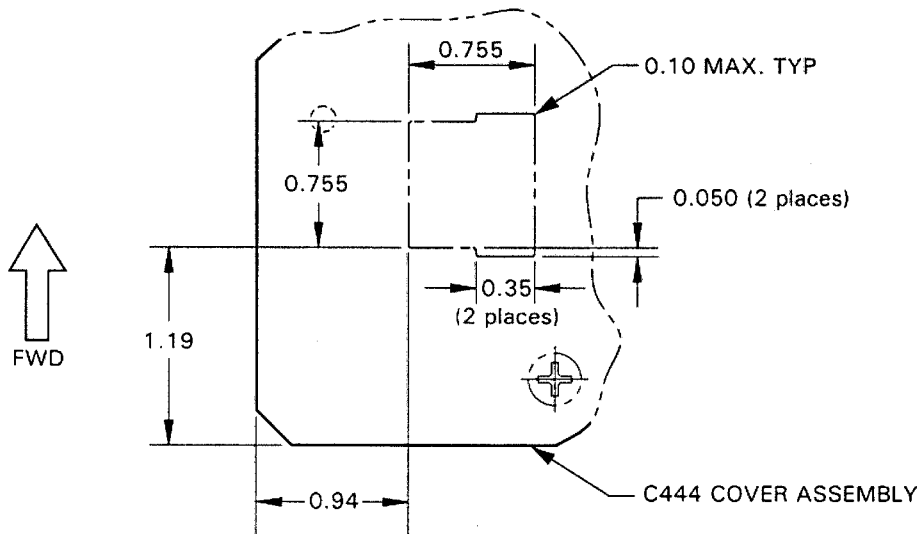

FIGURE 1 C444 COVER MODIFICATION
5. Create or modify remote switch hole in C444 cyclic box cover per Figure 1. Clean up debris.